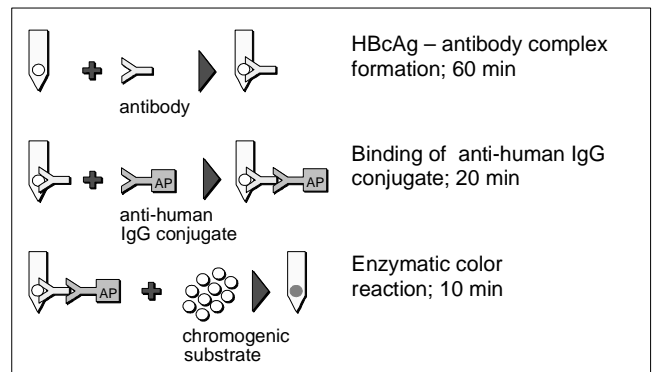

Figure 1. Principle of the Test
The ImmunoComb® II HBc IgG test is an indirect solid-phase enzyme immunoassay (EIA). The solid phase is a card with 12 projections ("teeth"). Each tooth is sensitized at two positions: upper spot — human immunoglobulin (Internal Control) lower spot — recombinant HBcAg. The Developing Plate has 6 rows (A-F) of 12 wells, each row containing a reagent solution ready for use at a different step in the assay. The test is performed stepwise, by moving the Card from row to row, with incubation at each step. At the outset of the test, serum or plasma specimens are prediluted 1:10 and added to the diluent in the wells of row A of the Developing Plate. The Card is then inserted in the wells of row A. Anti-HBc antibodies, if present in the specimens, will specifically bind to the HBcAg on the lower spot on the teeth of the Card (Figure 1). Unbound components are washed away in row B. In row C, anti-HBc IgG captured on the lower spots of the teeth, and the human immunoglobulin on the upper spots (Internal Control), will react with alkaline-phosphatase (AP)--labeled anti-human IgG antibody. In the next two rows, unbound components are removed by washing. In row F, the bound alkaline phosphatase will react with chromogenic components. The results are visible as gray-blue spots on the surface of the teeth of the Card.